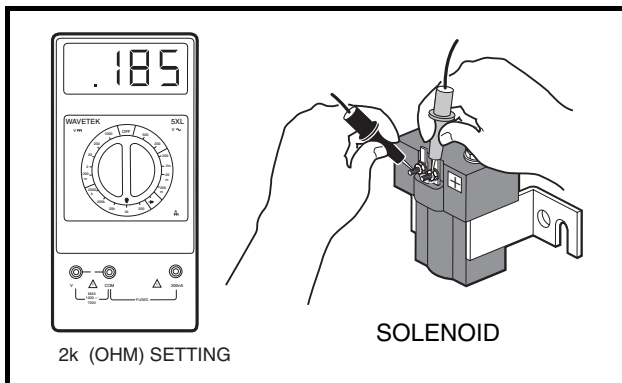

Figure 11-12 Activating Coil Test
- Place red (+) probe of the multimeter on the positive (+) solenoid terminal. Place the black (-) probe on the other small solenoid terminal. A reading of 180 to 190 ohms should be obtained (Figure 11-12, Page 11-20). If not, replace the solenoid.